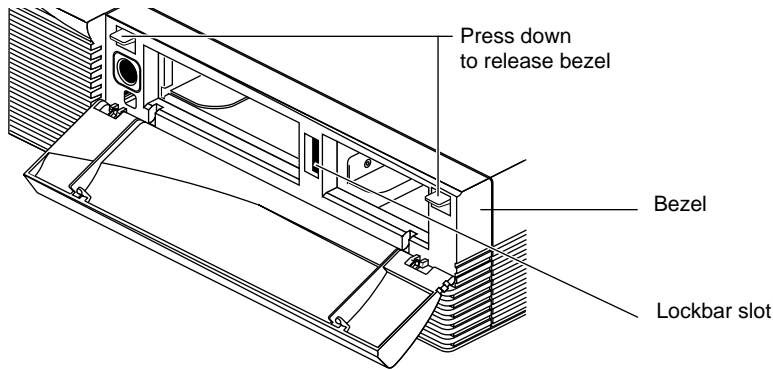

Figure 3-18 Releasing the Bezel
- Press down on the tabs on each side of the bezel, as shown in Figure 3-18.